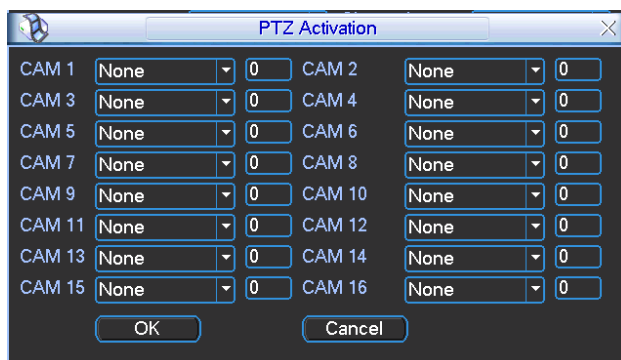

Figure 4-23
- PTZ activation: Here you can set PTZ movement when alarm occurs. Such as go to preset, tour & pattern when there is an alarm. Click “select” button, you can see an interface is shown as in Figure 4-23.